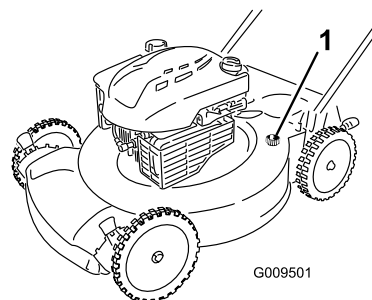

Figure 30
4. Attach a garden hose that is connected to a water supply to the washout port on the mower housing (Figure 30).